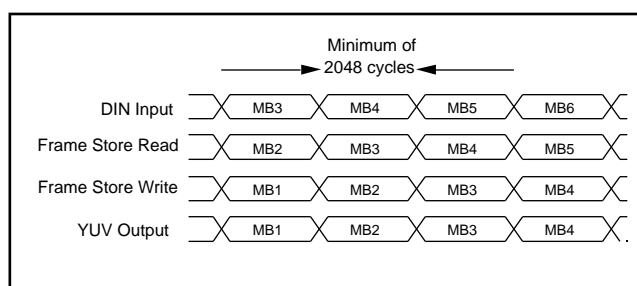

Fig 3 : MacroBlock Pipelining
Figure 3 illustrates the effects of the pipeline delays through the device; whilst macro block 3 is being input the previous macroblock (2) is being decoded and needs the equivalent macroblock from the previous frame to be read from the frame store. At the same time macroblock 1, which has already been decoded, is being written to the frame store